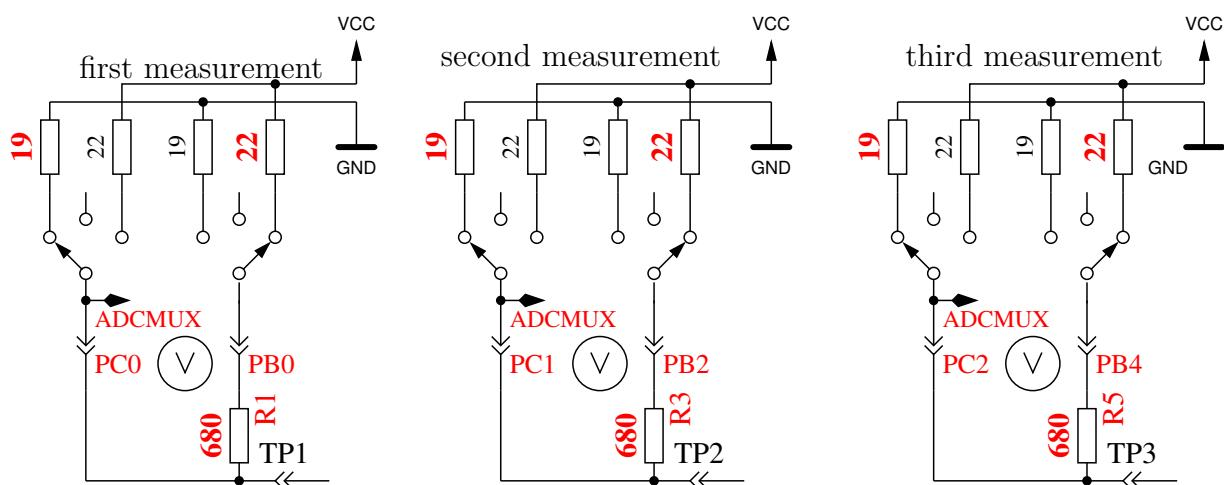

Figure 5.66. Measurement of internal resistance of Port C switched to GND
5. **This step tests the capability of GND (-) connected  $470k\Omega$  resistors (H) to pull the test pins to GND.** Row 1 shows the text “RH-”. Row 2 should display zero for all three pins.
6. **This step tests the capability of VCC (+) connected  $470k\Omega$  resistors (H) to pull the test pins to VCC (+).** Row 1 shows the text “RH+”. The results are shown als difference to VCC and should be near zero. Great differences from the best value for test 5 and 6 are errors such as isolation problem, flux material or damaged port.
8. **Measuring of internal resistance of pin output switched to the GND signal.** This test and the following tests will only be done, if the option AUTO\_CAL is selected. The internal resistance of the port C outputs switched to GND (-) are measured with the current of to VCC (+) switched  $680\Omega$  resistors, see Figure 5.66. Only the three pins of the ADC port are measured, the resistor port B (PB0, PB2 and PB4) can not be measured without hardware modification. It is assumed that the port resistance of the different ports are nearly identical. The resistor value will be shown in the next test.